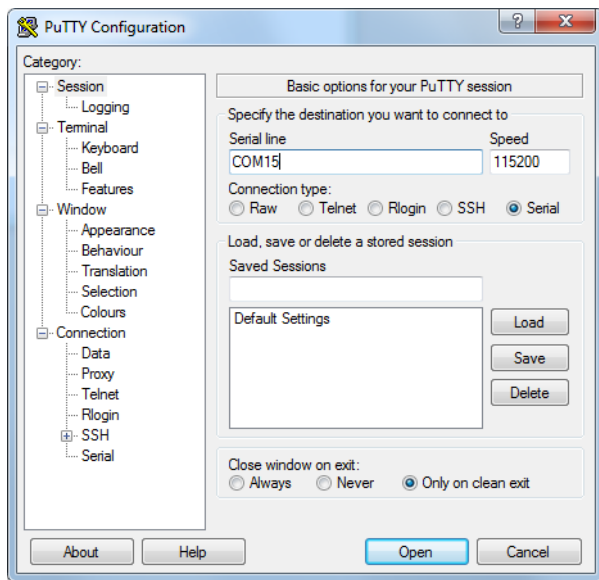

Figure 2-5. PuTTY settings for Windows computers
7. The rest of the defaults should be fine (see Figure 2-5). Click OK.
8. The rest of the defaults should be fine (see Figure 2-5). Click OK.